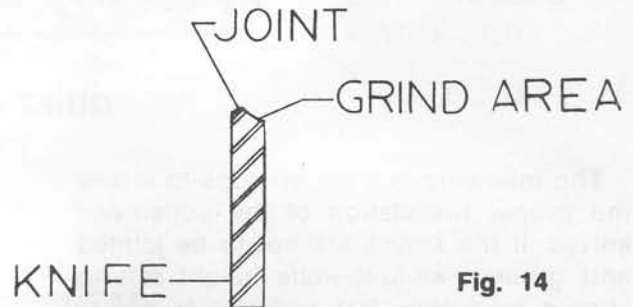

Fig. 14
2. **Always joint knives before grinding.** The jointing operation actually sharpens the knives. Grinding is used to reduce the joint (*fig. 14*) to a narrow width to minimize pounding and to produce a consistent joint over the length of the knife. Grinding first to a wire edge will result in that edge being turned over in jointing leaving a dull knife.